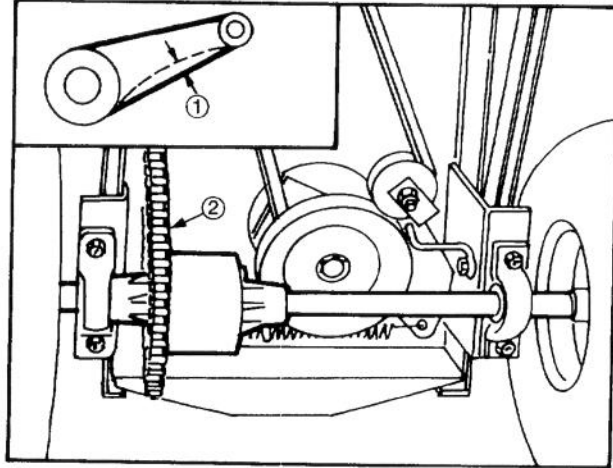

Figure 28
1. Check deflection of drive chain by lifting up on chain with moderate pressure at mid span (Fig. 28). There should be 1/8-3/8 of an inch (3-10 mm) deflection (Fig. 28). If deflection is not as specified, an adjustment is required—steps 2-10.